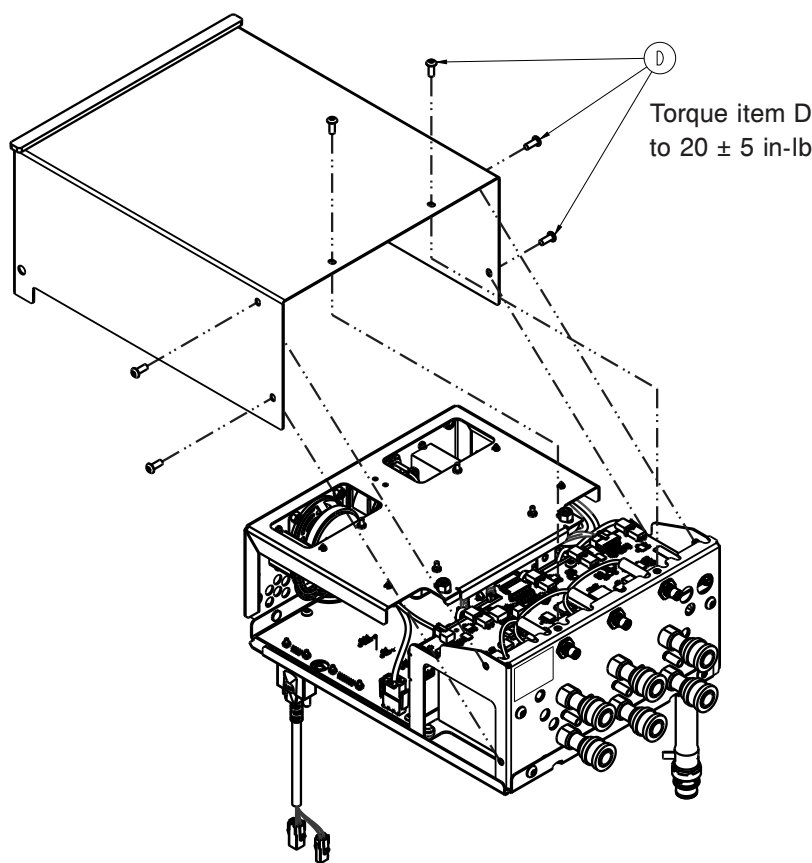

Figure 37 – Control box cover
15. Using a T25 torx, remove the 6 screws (D) that secure the control box cover (Figure 37).